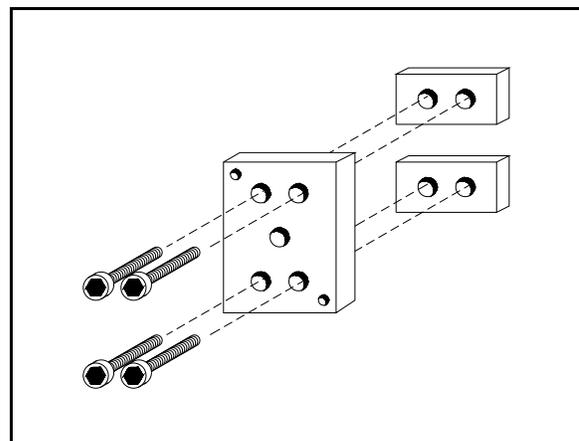

Figure 21. Alignment Fixture.
- 5) Hold the alignment/clamping fixture firmly on the mounting area in the direction of tension or compression of the structural member or, alternatively, drill a 5/8 inch deep hole through the center hole of the alignment/clamping fixture, tap for 1/4 x 28 threads, and bolt the alignment/clamping fixture to the mounting area through the center hole. Tack weld both sides of each intermediate pad to the mounting surface first, then continuously weld the out ends and sides of the intermediate pads to the mounting surface as shown in Figure 21.